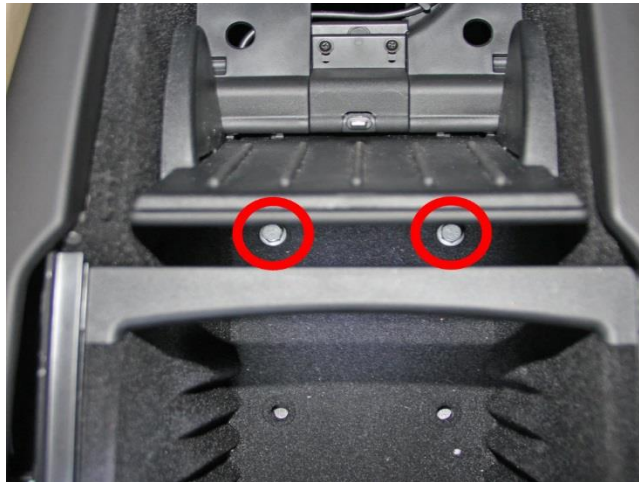

Figure 29. Bolts securing the front base of the center console
- r. Remove the front bolts that secure the base of the center console (Figure 29).